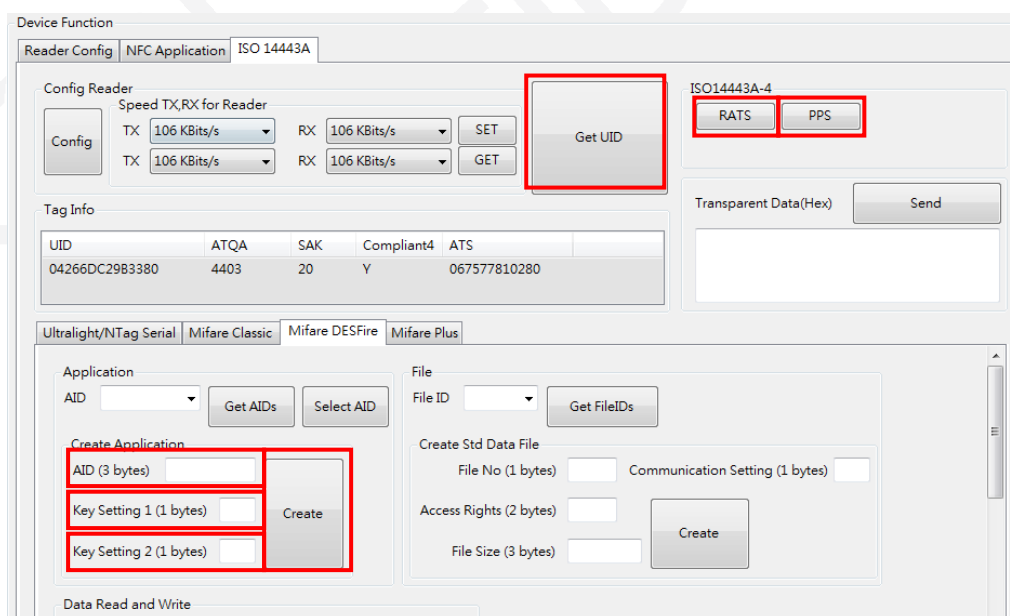

Figure 8.1-1 Create Application IDs
7. Click “Create” button to create new applications on the PICC., as shown in Figure 8.1-1.